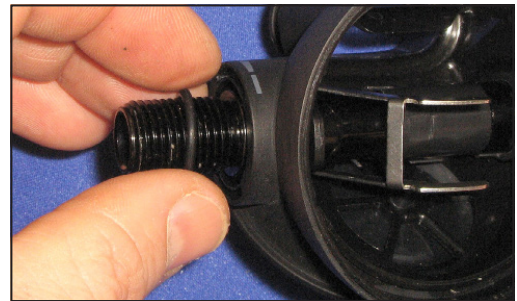

Fig. 46
28. Place the **O-RING (15)** onto the **INLET CHAMBER (2)**. (Fig. 46)